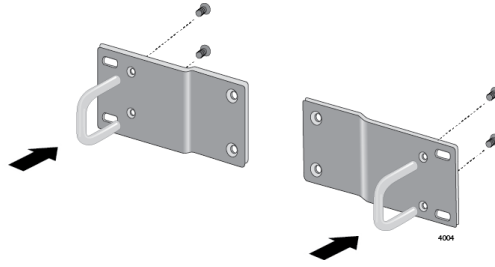

Figure 27. Attaching Handles to Brackets
2. Attach the handle to the short bracket with M3x6mm screws using a Phillip-head screw driver as shown in Figure 27.